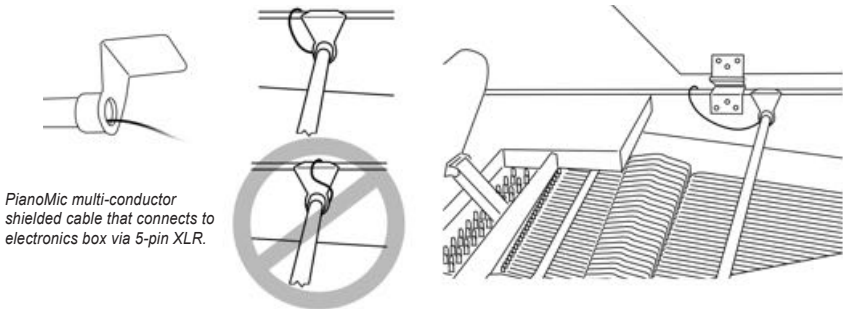

Figure 8. Positioning the PianoMic Cable
5. Notice that one end of the PianoMic™ has a multi-connector shielded cable coming out of the tube below the support arm (*Figure 8*). It doesn't matter which side of the piano the cable exits. The main objective is to place the PianoMic™ in the piano so that the microphone heads can be easily placed 2 to 3 inches in front of the dampers. The cable is long enough to easily reach the opposite side of the piano should you decide to locate the electronics box on the opposite side of the piano from where the cable comes out of the PianoMic™. You will need to position the cable so it does not lie on top of the support arm. The combined thickness of the support arm with the cable on top if it would exceed the size of the opening between the piano case and the lid. Therefore when the lid is closed it would pinch and deform the cable. To avoid this, place the cable to one side of the support arm. You may also position the cable so it comes out the open area of the piano as illustrated in *Figure 8*.